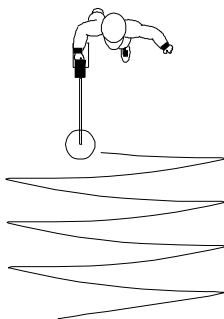
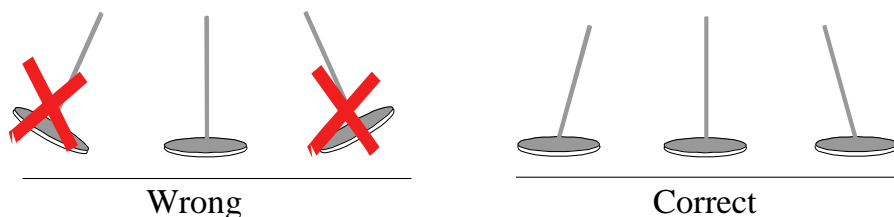

Fig.1
Fig.2
**Delta6** working in dynamic regime - searching metal objects is made by moving search coil toward ground surface – fig.1, fig.2